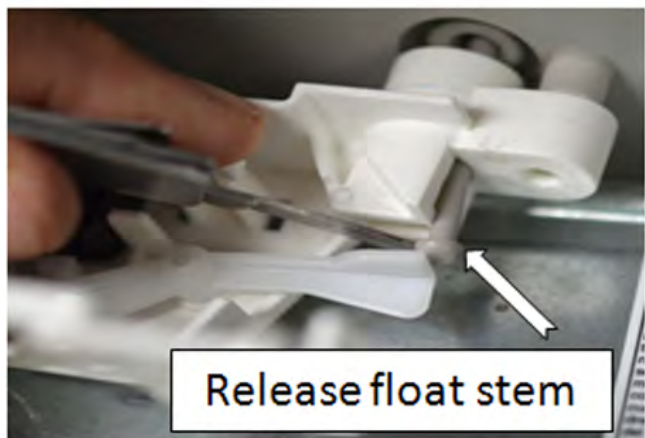

Figure 4
3. Release float stem, see figure 4.